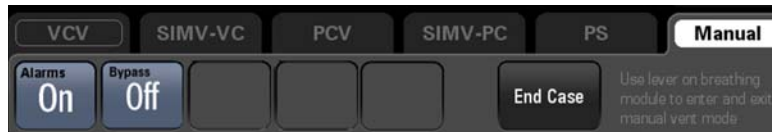

FIGURE 5-2 End Case Button
The **End Case** button is located in the **Manual** tab (see FIGURE 5-2). The **End Case** button can be selected only when the **Auto/Manual** ventilation switch is set to **Manual**, and when all gas flows are turned off.
3. Select the **End Case** button in the **Manual** tab (see FIGURE 5-2).